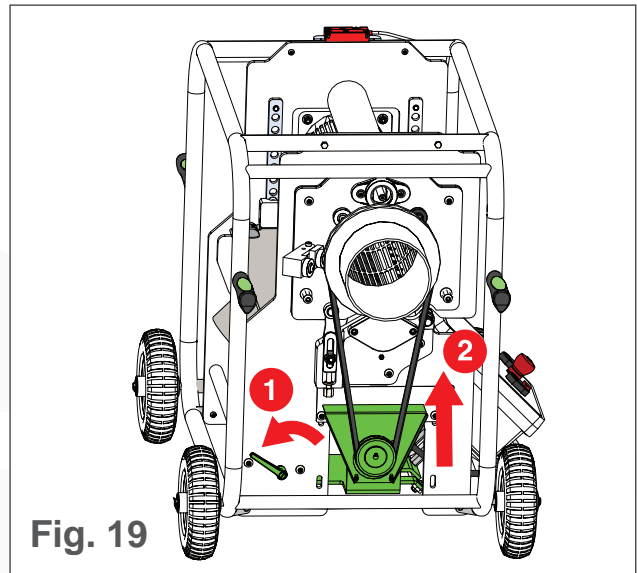

Fig. 19
3. Rotate the tumbler belt handle (see Fig. 19).
4. Lift the tumbler motor pulley (see Fig. 19).